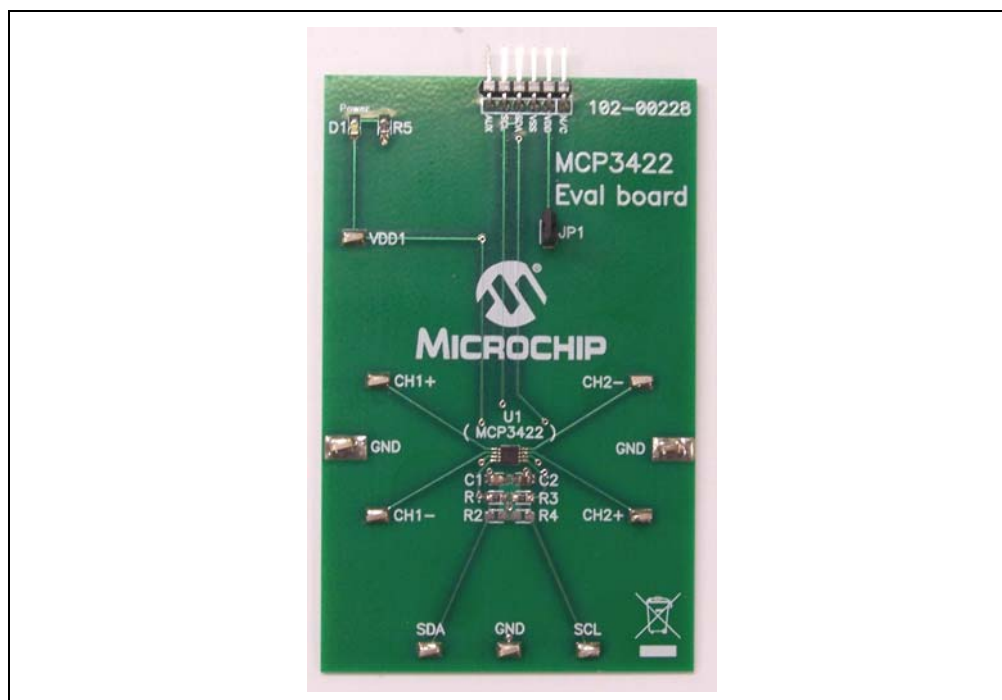
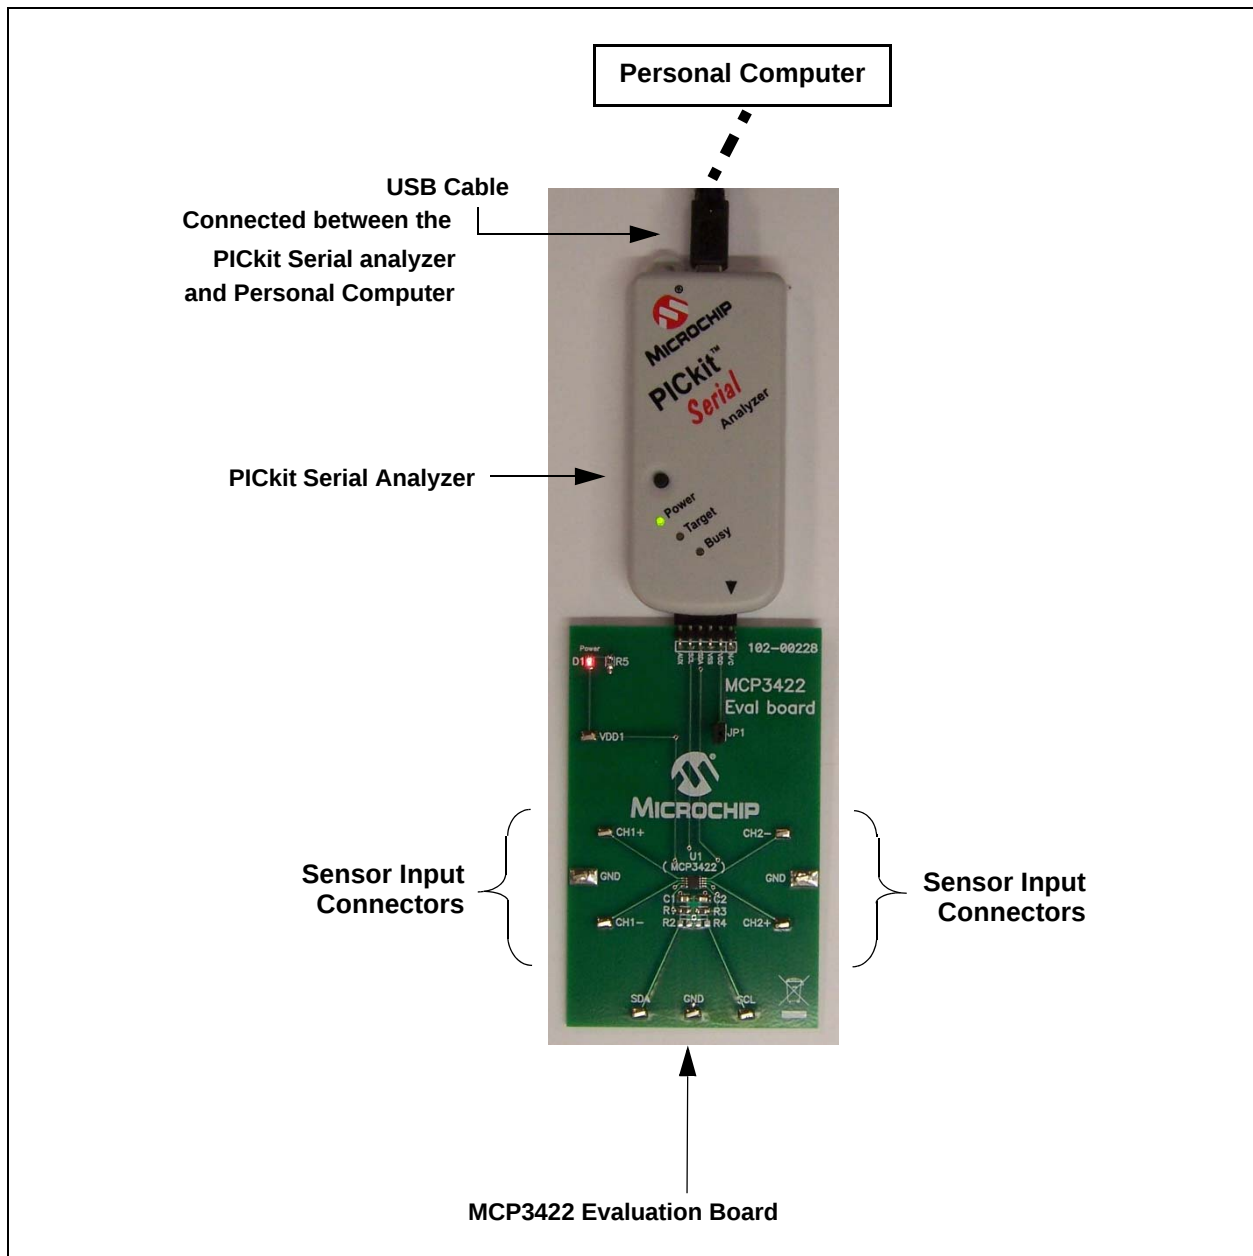

FIGURE 1-1: Front View of the MCP3422 Evaluation Board.
FIGURE 1-2: MCP3422 Evaluation Board with the PICKit Serial Analyzer.
Figure 1-1 shows the MCP3422 Evaluation Board and Figure 1-2 shows the MCP3422 Evaluation Board and PICkit Serial Analyzer.
1. Connect the MCP3422 Evaluation Board's 6-pin socket to the PICkit Serial Analyzer, as shown in Figure 1-2.